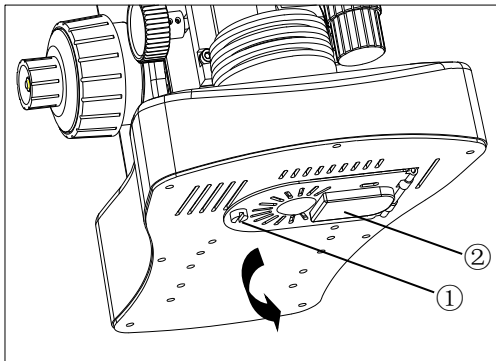

Fig.11
2.2.8 Installing and replacing the lamp (Fig.11, 12, 13)